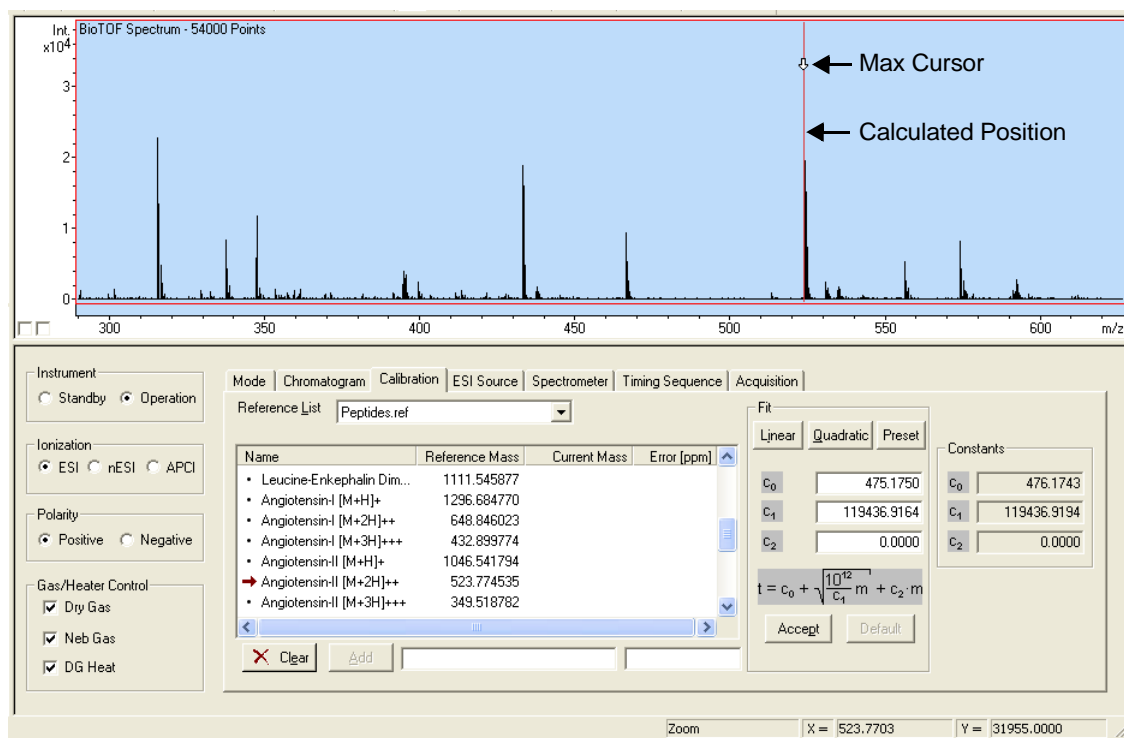

Figure 3-21 Calibrating the BioTOF System
3. Select the first known sample used in acquiring the spectra (*Angiotensin-II* in Figure 3-21).
6. Click the **Linear** button in the Fit group (Figure 3-21) to display the new calibration constants.
3. Uncheck **DG Heat** in the Gas/Heater Control Group (Figure 3-21 on page 3-18) to allow the spray chamber to cool.